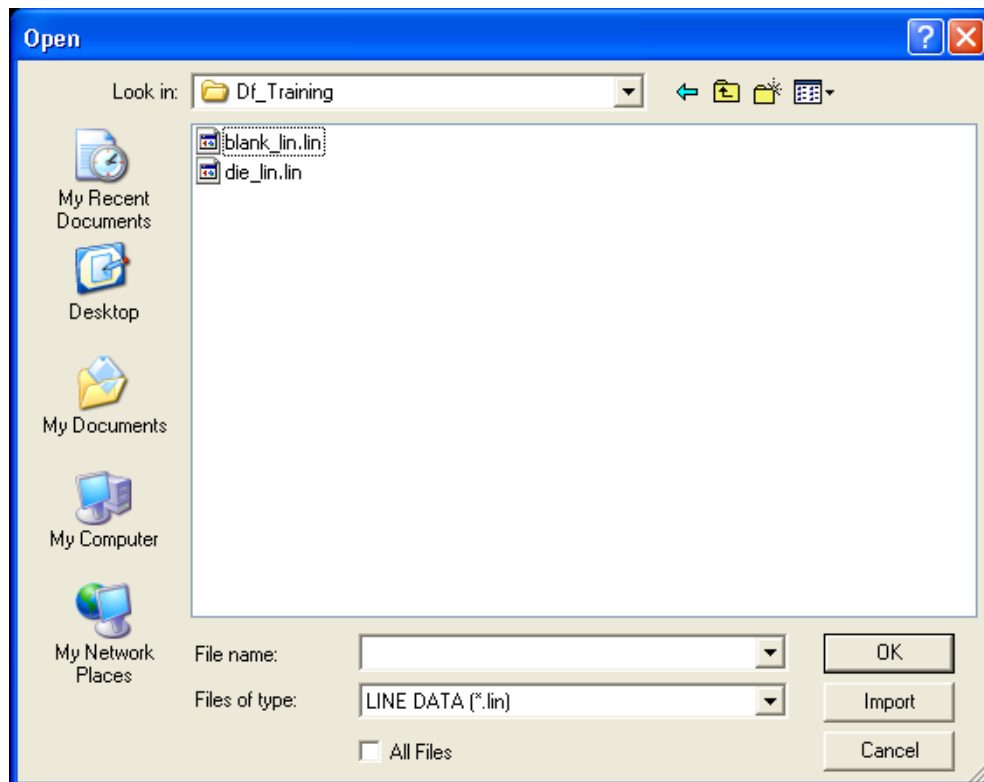

Figure 1: Import file dialog window
1. From the menu bar, select **File**→**Import**. to display the Import file dialog window illustrated in Figure 1.